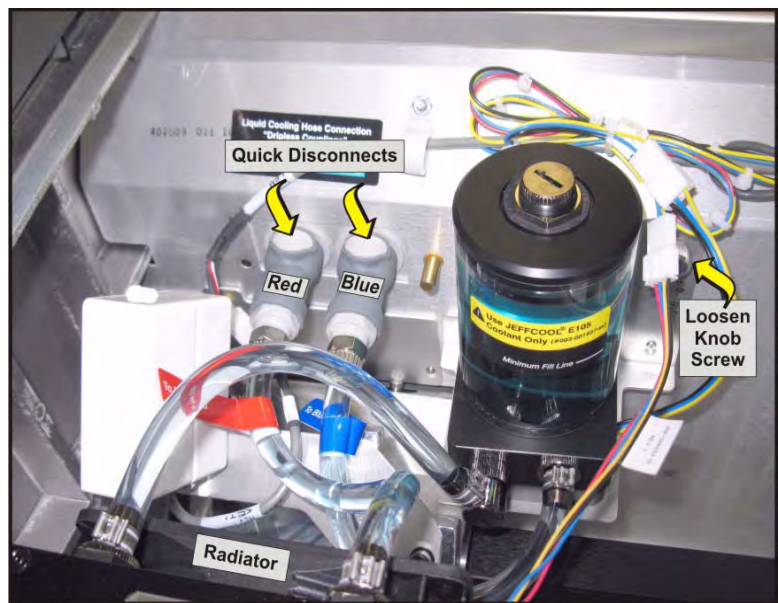

Figure 5-28 Liquid Cooling Assembly
5. Using a stubby #2 Phillips™, loosen the knob screw securing the liquid cooling assembly. **(Figure 5-28)**
6. Disconnect the two quick disconnect hoses. **(Figure 5-28)**